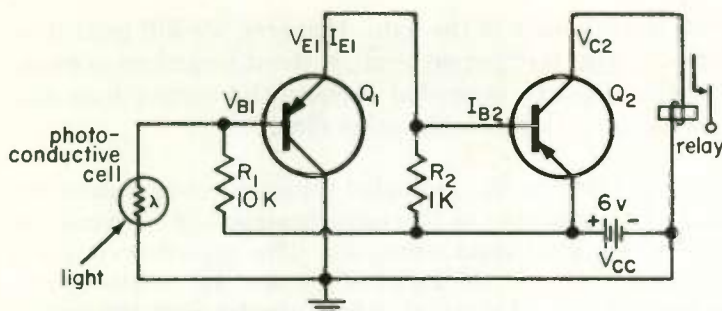

Fig. 27 A simple d-c amplifier circuit.
16 D-C AMPLIFIERS . . . Transistors are widely used as variable resistors or switches. A simple example is shown in Fig. 27. The resistance of the photoconductive cell is very high, but it greatly reduces when light strikes the cell. When no light strikes the cell, the base emitter junctions of Q_1 and Q_2 have zero bias, so there is no base current. The collector current flow is then limited to the leakage current, which is not sufficient in Q_2 to close the relay contacts. When light strikes the cell, the effect caused by the change in cell resistance is amplified by Q_1 and Q_2 to give a Q_2 collector current adequate to close the relay contacts. That is, the circuit acts as a switch; the collector current through Q_2 switches from essentially zero when the photocell is dark to full value when light strikes the cell.
Transistor Q_1 is operated in the grounded-collector configuration because the high input impedance of this configuration best matches the high resistance of the photoconductive cell. The capacitor coupling between the output of Q_1 and the input of Q_2 must be omitted, since the circuit is amplifying a d-c signal, which cannot pass through a capacitor. In other words, the circuit of Fig. 27 is that of a d-c amplifier.
To analyze the circuit of Fig. 27, we shall first assume that the light to the photocell is off. The resistance of the cell is then very high, and for the purpose of understanding Fig. 27, the cell can be considered as an open circuit. For base current flow in Q_1 , the base-emitter junction must be forward-biased. That is, the potential V_{B_1} on the base must be lower than the potential V_{E_1} on the emitter. Assuming there is no base current, there is no current flow through R_1 , and therefore no voltage drop across R_1 . Then V_{B_1} is +6 volts. With no base current, I_{E_1} is the leakage current, which causes a negligible voltage drop across R_2 . Hence, V_{E_1} is also +6 volts. Since the base is at the same potential as the emitter, the assumption of no base current was justified.
1. If the current through R_2 in Fig. 27 is 0.2 ma, the voltage drop across R_2 is (a) _____ volt. The base-emitter junction of Q_2 , which is directly across this voltage drop, is (b) (*forward-*) (*reverse-*) biased. If the forward base-emitter resistance is 500 ohms, then the base current I_{B_2} is (c) _____ ma and the emitter current of Q_1 is (d) _____ ma. If the
2. Should the relay winding in Fig. 27 best be one with many turns or one with relatively few turns? _____